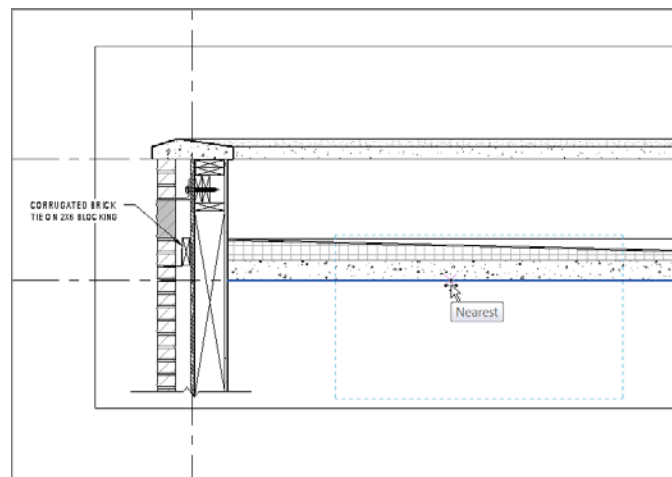

FIGURE 12.70: Picking a point along the bottom of the roof to place the group
4. Pick a point along the bottom of the roof, similar to what is shown in Figure 12.70.